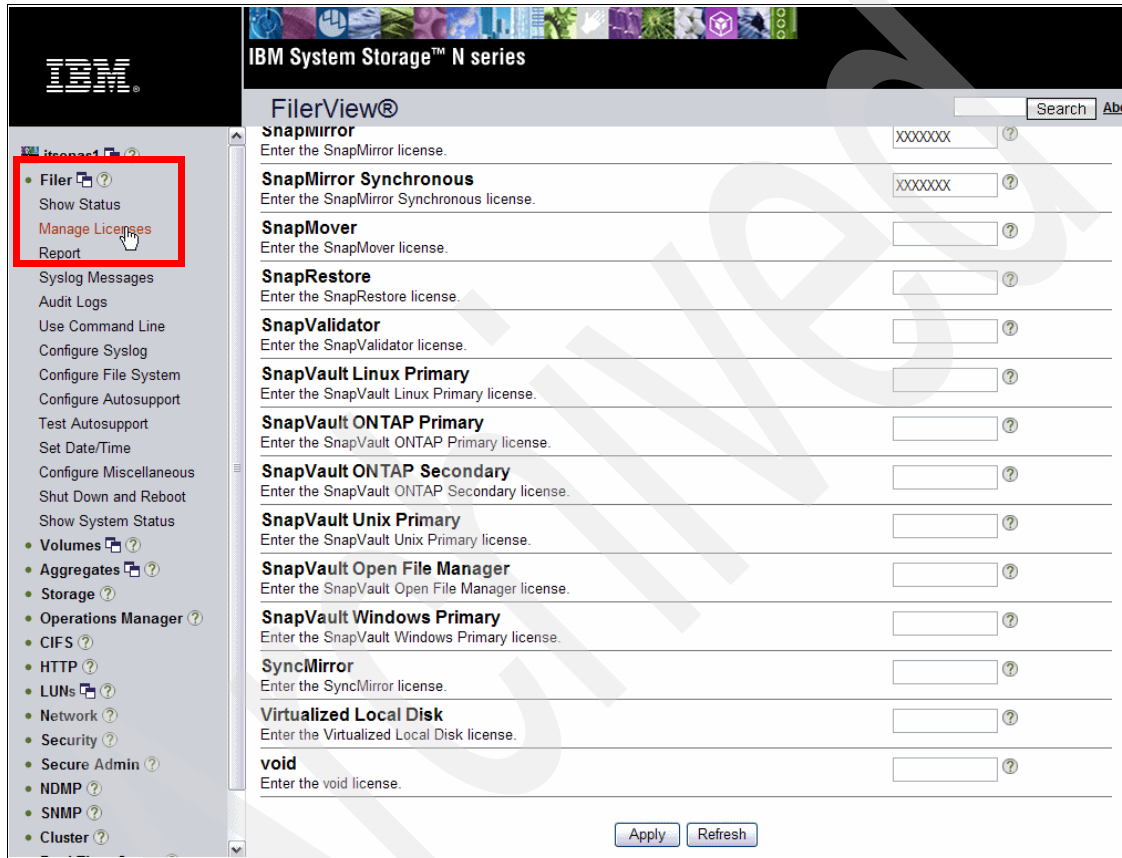

Figure 9-31 Adding Licenses
2. Add licenses for SnapMirror and SnapMirror Synchronous for both nodes, as shown in Figure 9-31. In a production environment, SnapMirror occurs from one filer in one site to another filer in another site. Because we only have a cluster for our test, we implement SnapMirror from the node1 to the node2.